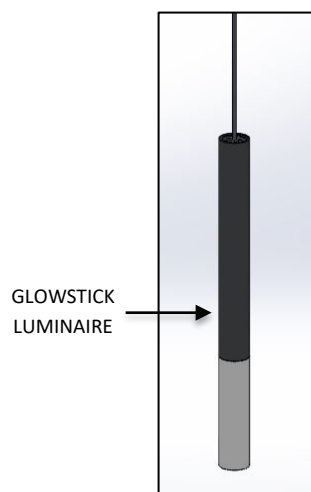

FIG.2 GLOWSTICK LUMINAIRE (PRE-ASSEMBLED)
1. GLOWSTICK LUMINAIRE with CORD attached. (Pre-assembled as shown in FIG. 2)